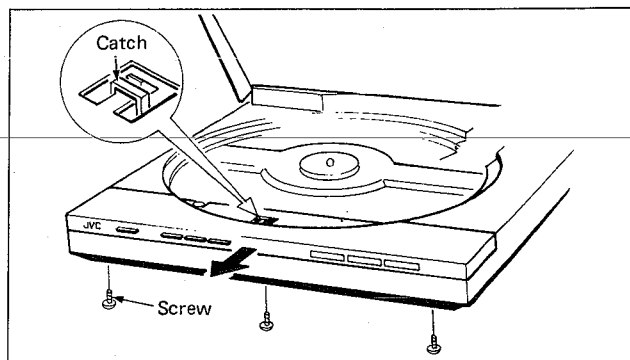

Fig. 9
2. Undo the catch of front escutcheon by finger, then remove the front escutcheon in the direction of the arrow as shown in Fig. 9.